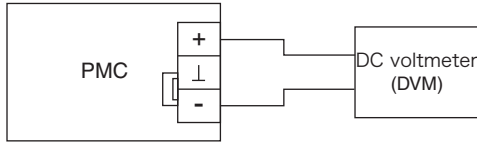

Fig. 5-3 Connection for voltage system calibration
Readjust the output voltage at full scale in the following procedure. See page 48, Test equipment required for calibration for the test equipment required and environment. See Fig. 5-3 for the connection of the equipment.
2. Connect the cables as shown in Fig. 5-3.